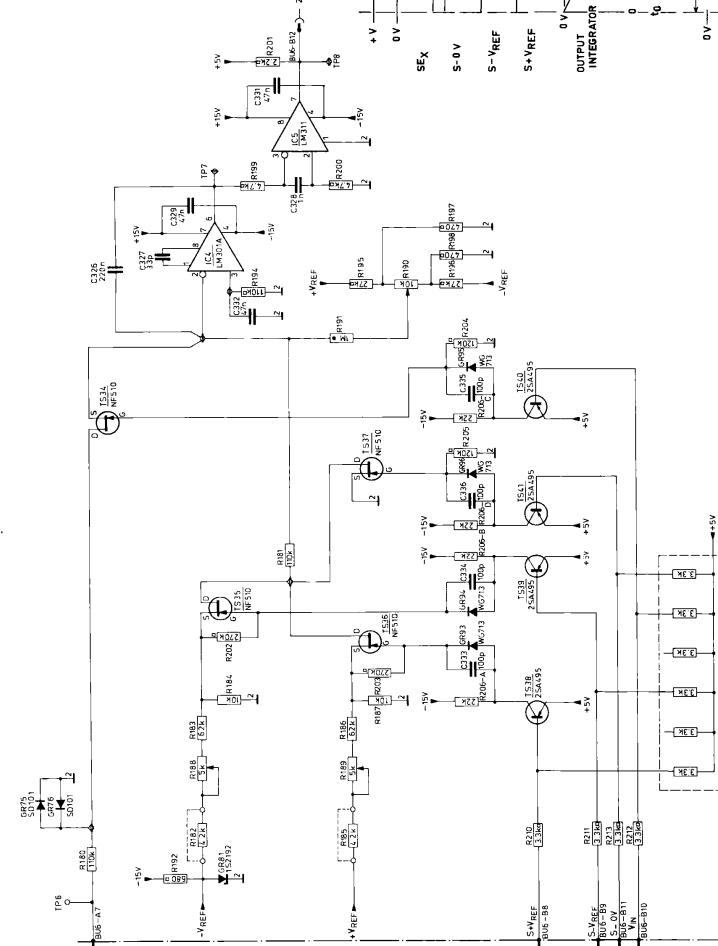

Fig. 11. Analog-to-digital converter
5. Analog-to-digital converter (Fig. 11)